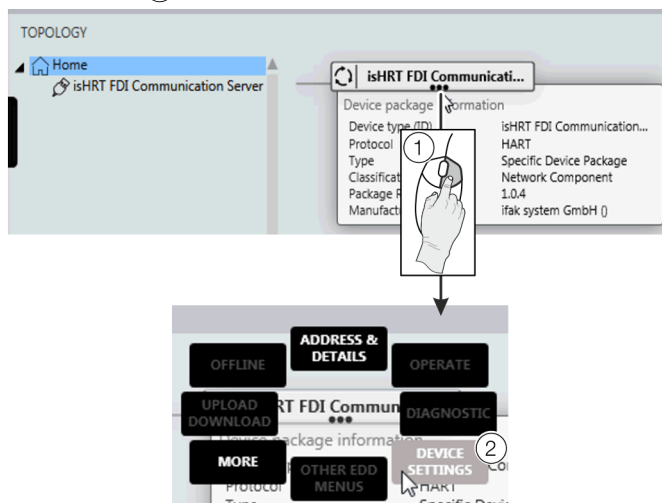

Figure 29: Select FIM – 'Device Settings'
6. Right-click ① as shown in Figure 29.
7. Select 'DEVICE SETTINGS' ② as shown in Figure 29.